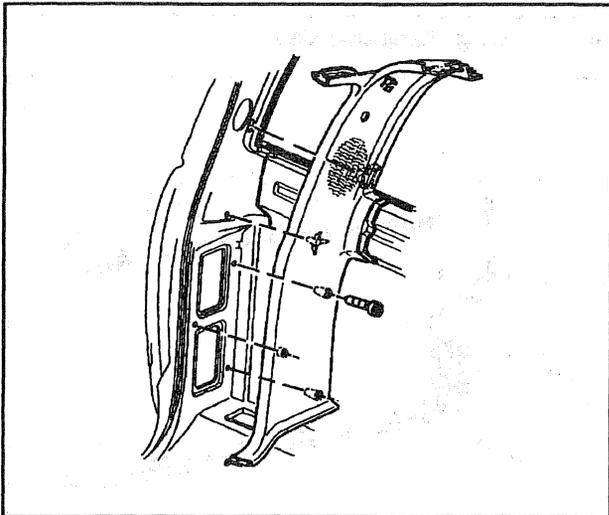

Figure 34—Quarter Panel Trim (Pickup and Crew Cab)
**↔** Remove or Disconnect (Figures 34 and 35)
**→** Install or Connect (Figure 34 and 35)